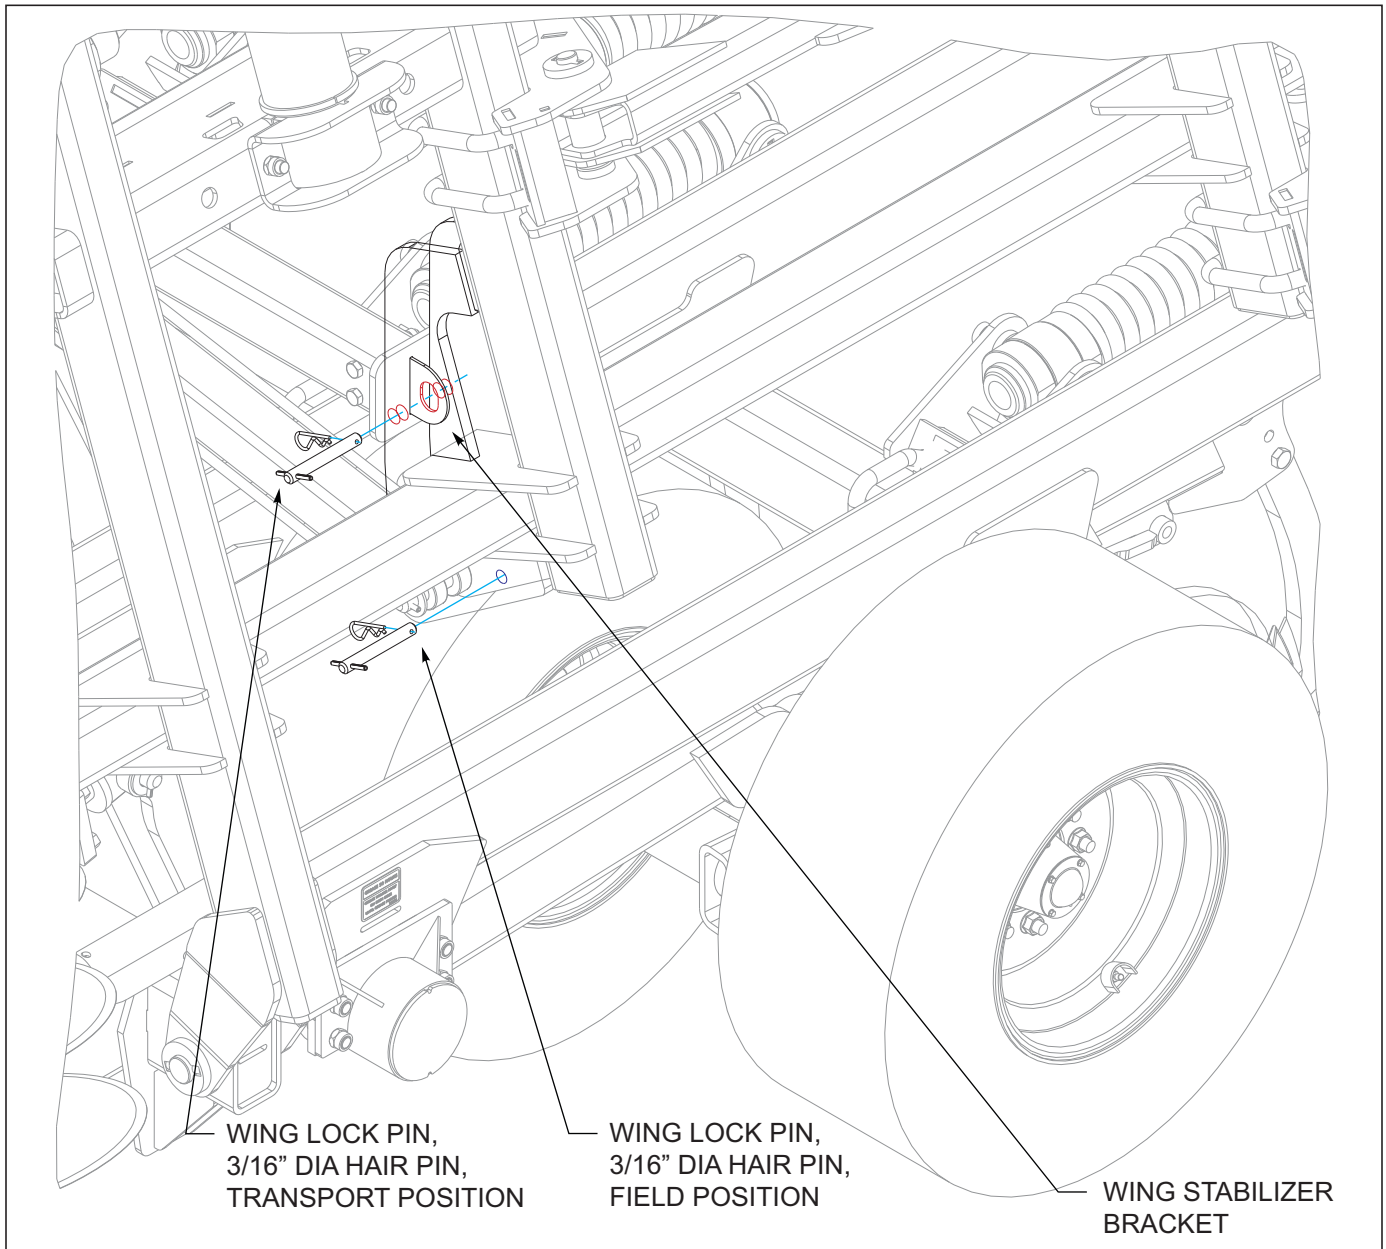

Figure 4-5: Fold Transport Locks
5. To fold/unfold the 2132 Coulter Chisel, find a level area large enough to accommodate the implement when it is fully unfolded. The tractor should be stopped and not moving with the unit fully raised. Remove the 3/16" dia hair pins, wing lock pins from the wing stabilizer transport position and install them in the storage locations *See Figures 4-5*.
2. Remove the wing lock pins and store in the extra hole in the hinge bracket. Unfold the wings and extend the fold cylinders completely See Figure 4-5.